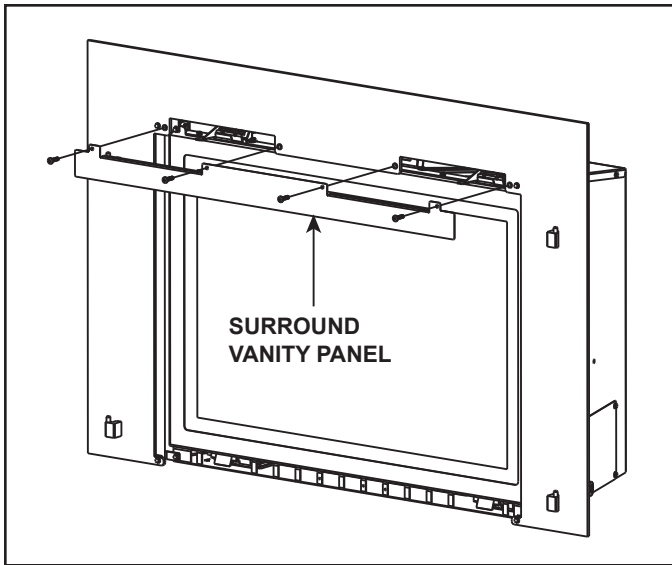

Figure 2
4. Attach the surround vanity panel with four 10-24 x 3/4 Phillips pan head screws if it was removed during surround installation or appliance set up. See Figure 2.